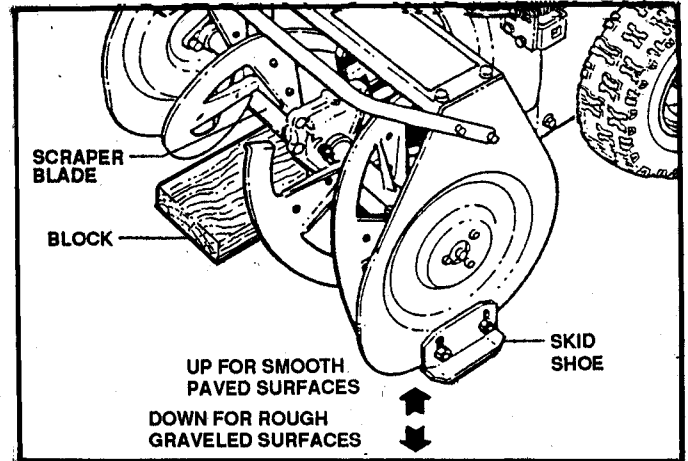

FIGURE 3.8
- E. **RESET SKID SHOES** to suit area to be cleared. Lower skid shoes to provide greater clearance over gravel, or raise the shoes for smooth, paved surface. Refer to Figure 3.8, SKID SHOE ADJUSTMENT.
The skid shoes should be lowered to raise the auger housing to clear rough or gravelled surfaces. Raise the skid shoes to lower the auger housing to clear smooth or paved surfaces. NOTE that the skid shoes can be installed upside down to track better over icy or hardpacked surfaces. To adjust the skid shoes, place a block under the scraper blade. Loosen the retaining nuts and move shoe up or down to desired height. Tighten retaining nuts after setting both skid shoes to the same depth. Remove block from under scraper blade. See Figure 3.8.